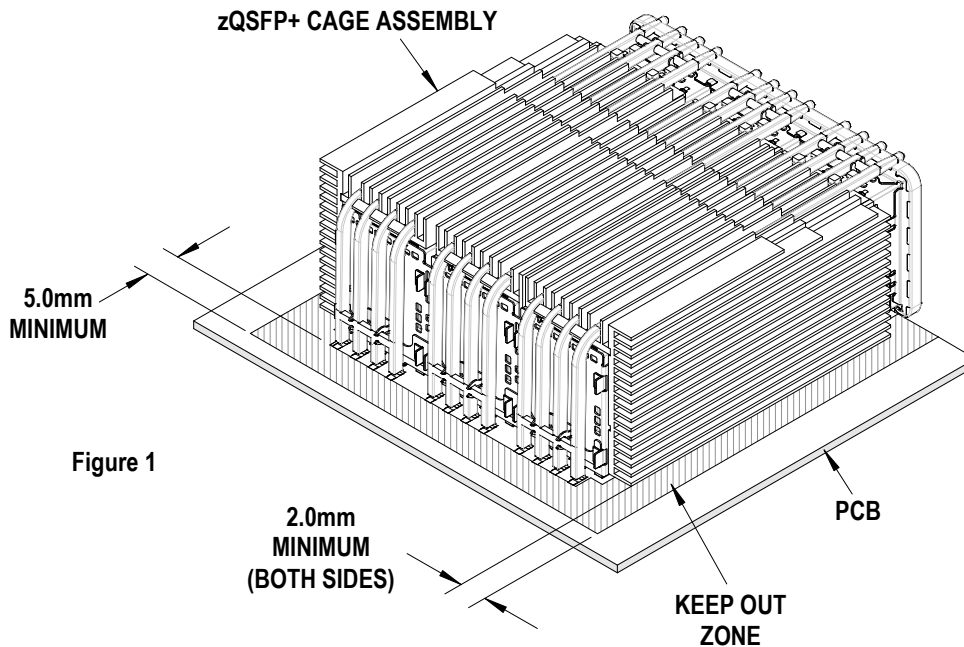

Figure 1
2. These tools require a “Keep Out Zone” around the connector free of components. The right and left sides should be 2mm (0.08”) and the rear of the connector should be 5.0mm (.197”). See Figure 1.